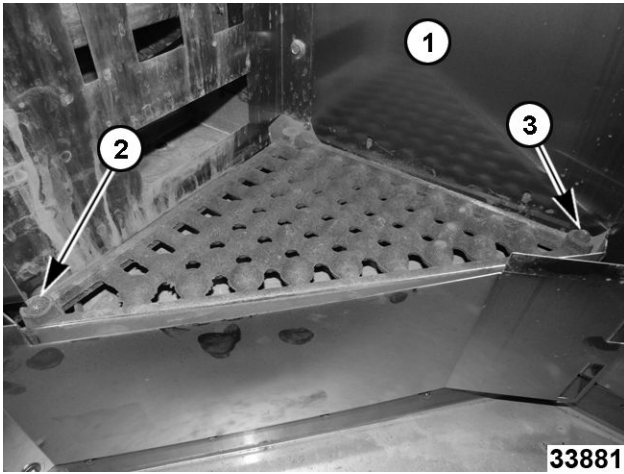

Fig. 60
- The next steam ball assembly must be put in place matching the female post (2, Fig. 60) with male post (3, Fig. 60) of previous assembly (total of 28 sections for OV520G2). (1, Fig. 60, splash panel.)